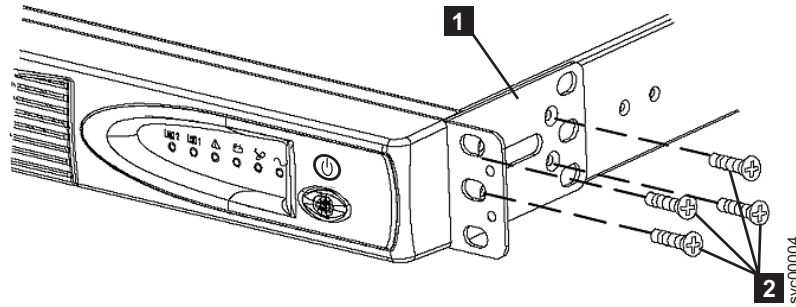

Figure 62. Installing the support rails for a 2145-1U uninterruptible power supply into the rack
3. Attach the long side of a mounting bracket **1** to each side of the 2145-1U uninterruptible power supply using four M3 × 6 screws **2** for each bracket, as shown in Figure 62 on page 79.